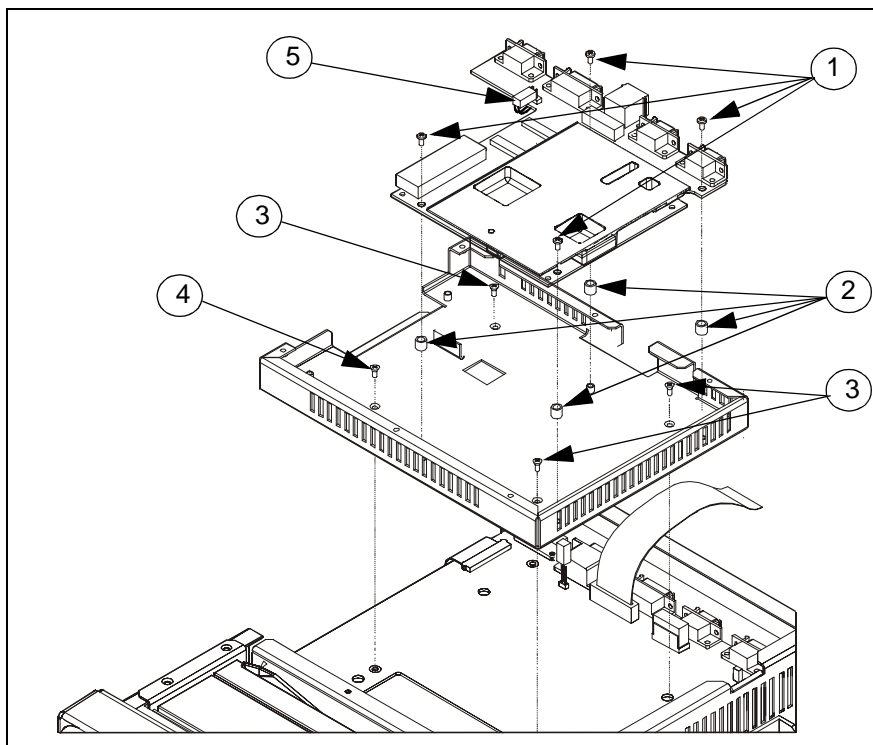

Figure 3-9 Removing/Installing Adv. Comm Option PC board
- 4) Remove and save four screws (① in Figure 3-9) that secure Adv Comm Option PC board to chassis.
- 8) Reinstall screws removed in step 4, to safely store screws and 1/4" dia. x 3/16" (6mm dia. x 4.5mm) spacers (② in Figure 3-9) on threaded mounting posts for use in reassembly.
- 9) Remove and save four screws (③ and ④ in Figure 3-9) that secure Adv. Comm Option subassembly chassis to threaded mounting posts on Main PC Board heat sink.
Note: Note difference between screws ③ and screw ④ in Figure 3-9. Screw ④ was selected to prevent possible interference with installation of MIB 1&2 Option and must be used in mounting post indicated.
- 3) Remove four screws that secure 1/4" dia. x 3/16" (6mm dia. x 4.5mm) spacers (② in Figure 3-9) on threaded mounting posts in bottom of Adv Comm Option chassis. Do NOT remove spacers.
- 5) Note polarity of power cable (⑤ in Figure 3-9) plugged into X8 on top side of previously installed Adv Comm Option PC board, and unplug cable.
- 10) Carefully slide power and flex cables under insulation on slot in side of chassis as you orient Adv Comm Option PC board so that mounting holes align with four mounting posts in bottom of Adv Comm Option subassembly chassis. Refer to Figure 3-9 on page 42.
- 2) Slide MIB 1&2 Option PC Board connector (① in Figure 3-9) into connector on Comm Option PC Board (② in Figure 3-9) and seat board in Comm Option chassis.
- 4) Insert and tighten mounting screws (③ in Figure 3-9) to secure MIB Option PCB to Comm Option chassis.
- 6) Plug CAN cable connector (formerly taped to bottom of comm option chassis or plugged into X5 on MIB 1&2 Option PC board) into connector on MIB 1&2 Option PC board (④ in Figure 3-9).